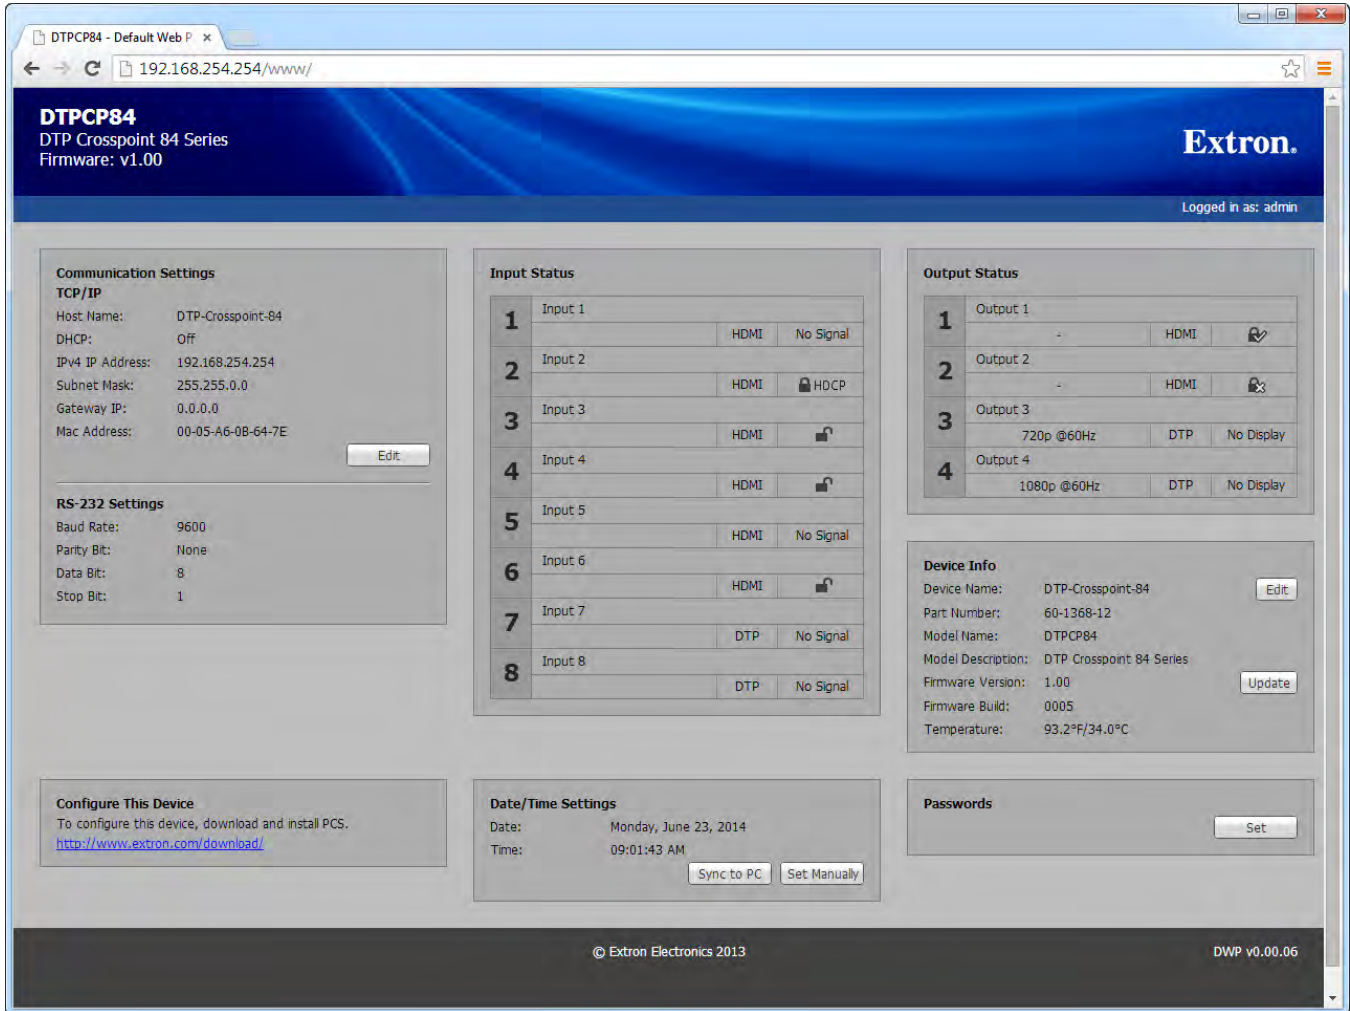

Figure 70. Built-in HTML Page
If the switcher is not password protected, it downloads the HTML page (see figure 70 on the next page).
The switcher downloads the factory-installed HTML page, (see figure 70).
7. Click **Upload**. The switcher reports Uploading, Initializing, Installing, and Rebooting. this process may take 6 to 8 minutes. After the reboot is complete, the display returns to the default HTML page (see figure 70 on page 139).